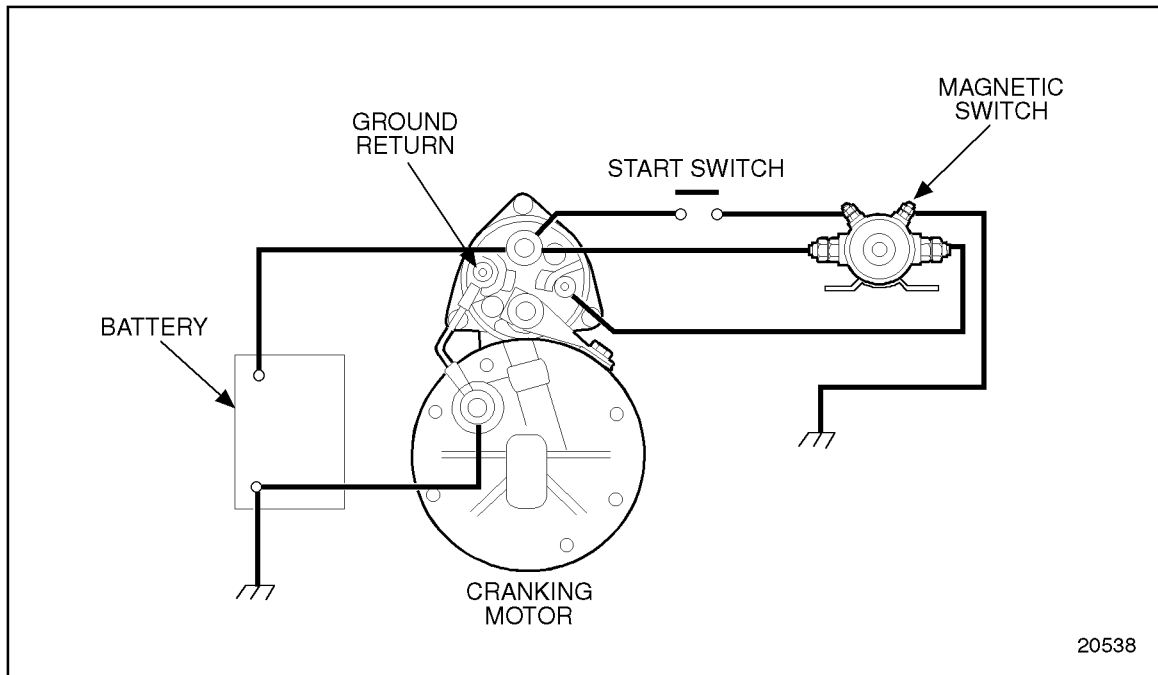

Figure 4-1 Basic Cranking Circuit
2. Clamp a heavy gauge battery jumper cable between the two large studs of the magnetic switch. See Figure 4-1.
2. Place the black voltmeter lead to the starter ground terminal, see Figure 4-1.